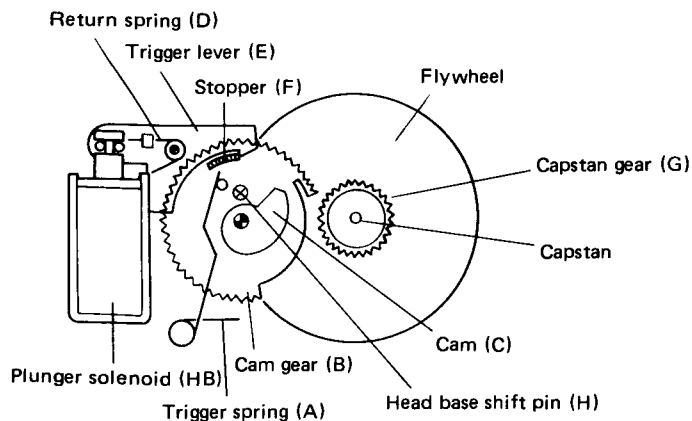

Fig. 4-1 Head base shift mechanism (STOP status)
- **When Stopping (Fig. 4-1)**
The head base shift mechanism during stop mode is outlined in Fig. 4-1. In this state, cam (C), stopper (F), and cam gear (B) combine to form a single unit. The flywheel is belt-driven by the capstan motor and rotates counterclockwise together with the capstan gear (G). The trigger spring applies clockwise torque to cam gear (B).
9. The plunger solenoid (HB) is deactivated.
10. Spring (D) disengages lever (E) from stopper (F).
11. Gear (B) rotates due to spring (A).
12. The shift pin (H) is lowered by cam (C).
13. Stopper (F) is caught by the hook of lever (E), bringing the mechanism to the same stop state as shown in Fig. 4-1 (stop mode).